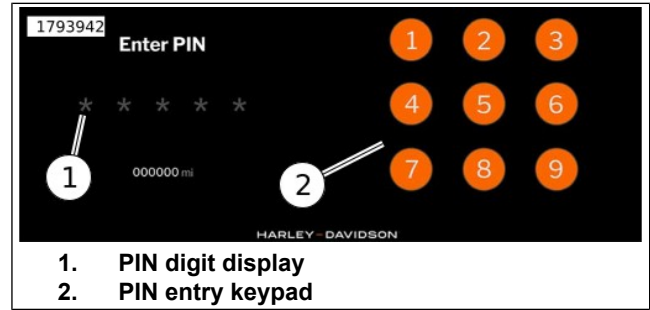

Figure 19. PIN Entry Screen
1. See Figure 19. Touching the IFCU screen will display PIN digit display (1) and the keypad (2).